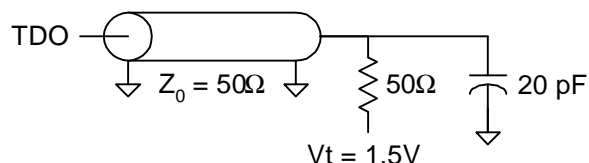

Figure 5
2. Test conditions are specified using the load in Figure 5.